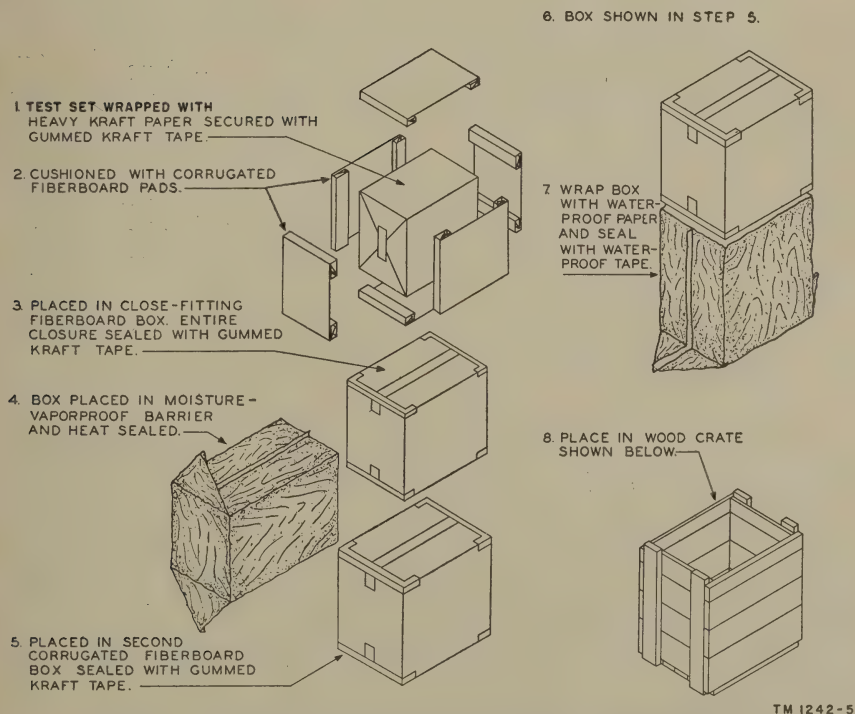

Figure 6. Packaging of Crystal Rectifier Test Set TS-268(*)/U.
When packaged for export shipment, Crystal Rectifier Test Set TS-268(*)/U is placed in a moisture-vaporproof container (fig. 6). When packed, the dimensions are $6\frac{1}{2}$ inches high by $10\frac{1}{2}$ inches deep by 8 inches wide; the volume is 3.2 cubic feet, and the weight is 8 pounds.
b. Step-by-Step Instructions for Uncrating and Unpacking Export Shipments (fig. 6).
- (1) Place the packing case as near the operating position as convenient.
- (2) Cut and fold back the steel straps.
- (3) Remove the nails with a nail puller. Remove the top and one side of the packing case. Do not attempt to pry off the sides and the top; the equipment may become damaged.
- (4) Remove the waterproof container or moistureproof barrier and any excelsior or corrugated paper covering the equipment inside the case. See *d* below for instructions on removing the metal container.
- (5) Remove the equipment from its inner case and place it on the workbench, or near its final location.
- (6) Inspect the equipment for possible damage incurred during shipment.
- (7) Check the contents of the packing case against the master packing slip.